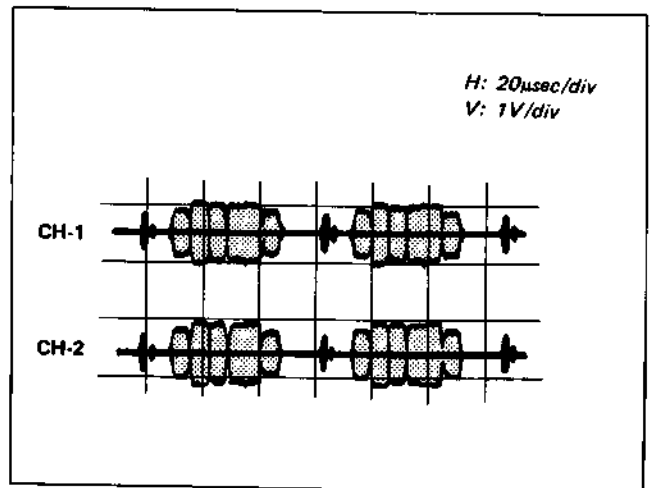

Fig. 4-39. Balance adjustment of chroma signal
- (7) Adjust RV19 so that the signal level of the CH-1 is equal to the one of the CH-2. (see Fig. 4-39).